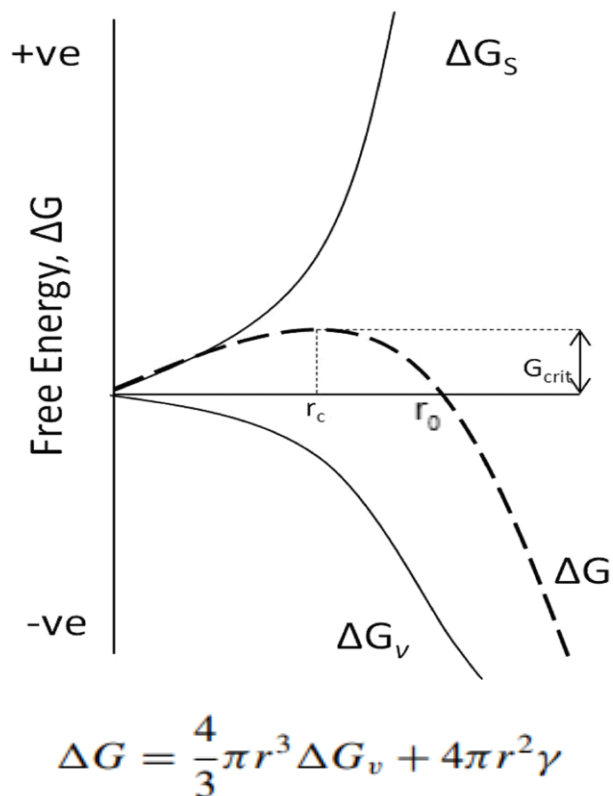

Figure Q3. Schematic of changes of free energy as a function of nucleus radius
- Define and interpret r_c , r_0 and $G_{crit.}$, using classical nucleation theory and a schematic diagram (Figure Q3). [3 marks]